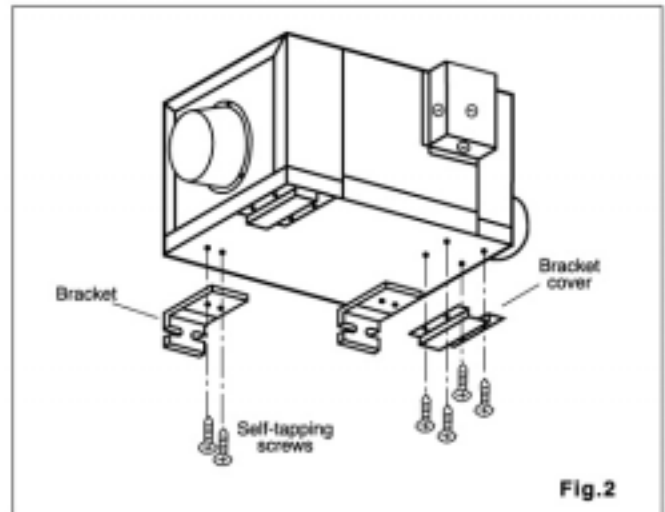

Fig.2
3. After confirming the direction that the unit will be facing, attach the bracket and bracket cover to the unit with self-tapping screws. (Fig.2)
The holder was assembled on the back side of the unit. (no shown in Fig.2)